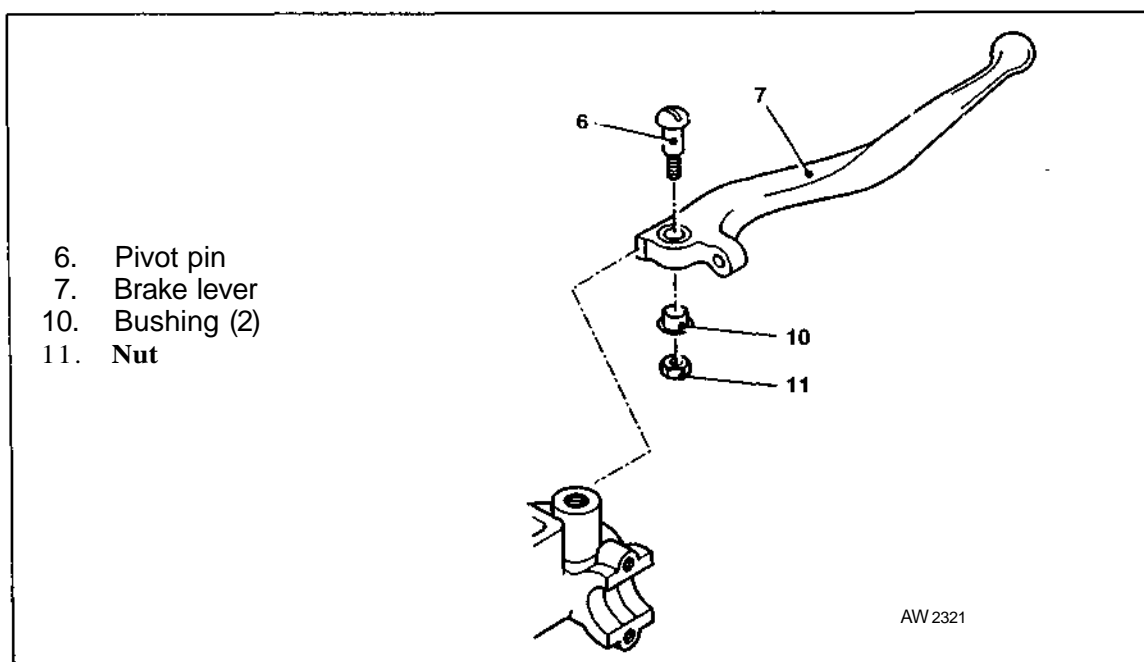

Fig 12.6 Front Brake Hand Lever and Reservoir
- c. Install spring (15). Assemble piston (14) with 'O' ring (13) and dust boot (12).
- d. Fig 12.6 refers. Lightly coat pivot pin (6) and bushings (10) with Loctite Anti-Seize. Assemble the brake lever (7) to the master cylinder/reservoir assembly (2) using pivot pin and bushings. Check front brake lever for proper operation. Wipe off excess Anti-Seize.